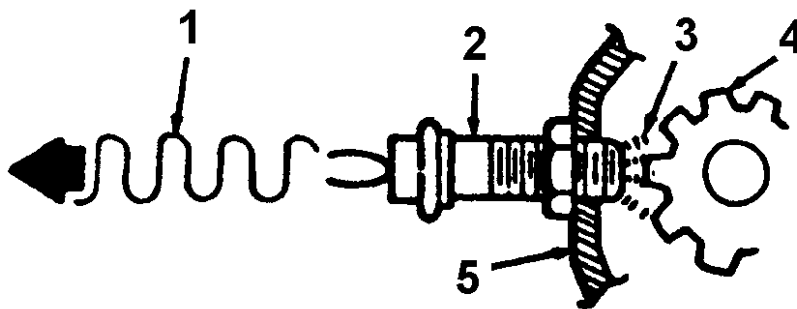

Figure 13 Speedometer Operation
The sensor (Figure 13) is a magnetic pick up that senses the rotation of a speedometer gear mounted in the transmission. A permanent magnet located in the sensor establishes a magnetic field at the tip of the sensor. The field is repeatedly interrupted by the teeth of the speedometer gear in the transmission, creating voltage impulses from the vehicle speed sensor (VSS). When Fuller manual transmission, these are transmitted through connector (303), on circuits K47 and K47A, to connector (6021) on the ECM2. When Allison WTEC automatic transmission, these are transmitted from connector (7983), on circuits K139 and K148, to connector (7203) on the ECU, and these are transmitted from the control module connector (7204), on circuits K157, to connector (6021) on the ECM2. Or, Allison 2000 (LCT) automatic transmission, these are transmitted from connector (7600), on circuits K215 and K216, to connector (7304) on the TCM, and these are transmitted from the control module connector (7305), on circuits K126/K126W, to connector (6021) on the ECM2. The ECM2 converts the sensor signal to a digital data signal. This signal is transferred over the data link on circuits A98E(+) and A98F(-) to pins 7 and 9 of connector (11), into the instrument cluster. The instrument cluster's microprocessor drives the speedometer.